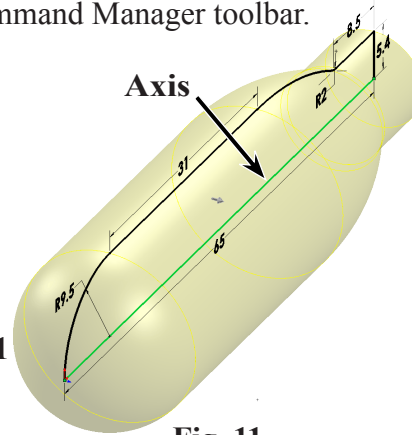

Fig. 11
Step 3. In the Revolve Property Manger, under Axis of Revolution click **bottom line of sketch**, **Fig. 11** click OK .